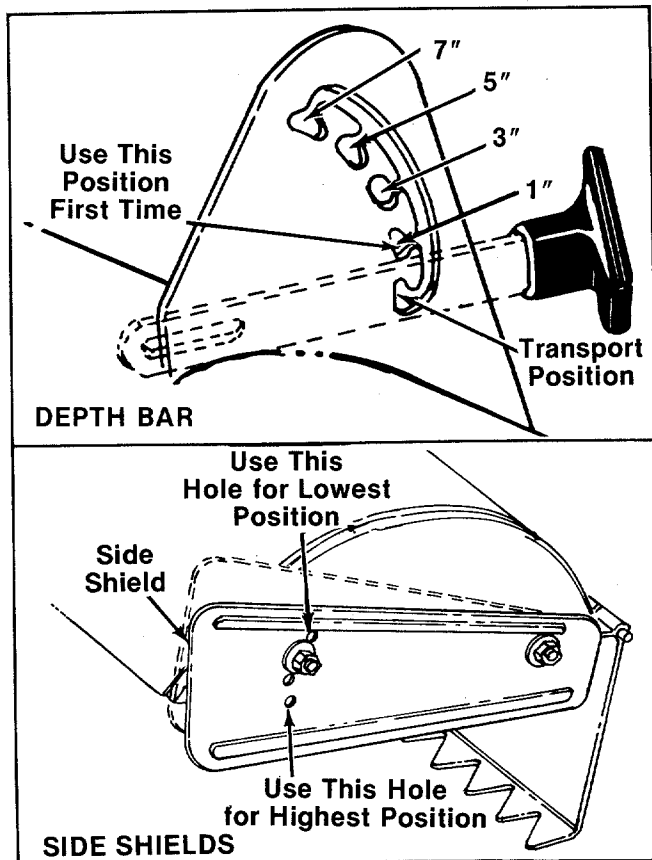

FIGURE 25.
When operating the tiller for the first time, use the depth bar setting that gives 1 inch of tilling depth (second slot from the bottom). Refer to figure 25. Use first speed only.
Tilling depth is controlled by the depth bar which can be adjusted to five different settings. See figure 25. Adjust the side shields as shown in figure 25 as you adjust the depth bar. Be certain spark plug wire is disconnected and grounded against the engine.
1. When using the tiller for the first time, use the second adjustment slot from the bottom (1" of tilling depth). See figure 25.
To adjust the depth bar, lift up on the tiller handles. Pull the depth bar handle assembly and move the depth bar to desired setting. Release the handle. See figure 25.